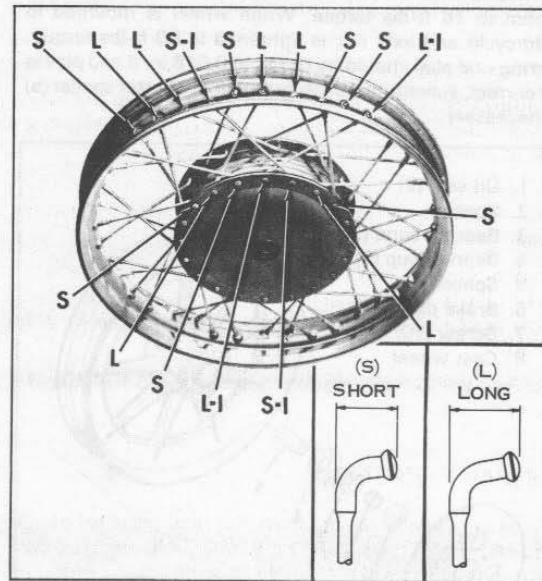

Figure 2-20. Front Wheel Lacing
Note that there are two types of spokes, long and short with bent end as shown in the figure. One long and one short spoke are used in each pair. The long spoke (L) of each pair on rim crosses over to opposite side of hub while the short spoke (S) of each pair on rim connects to same side of hub. Spoke arrangement is shown in Figures 2-20 and 2-21.
ASSEMBLING SPOKES (Figures 2-20 and 2-21)
9. Insert long spokes into right (clockwise hole) of each pair of holes that angles in same direction as spoke on opposite side of rim well. See L-1 in Figures 2-20 and 2-21.
10. Insert short spokes into right (clockwise hole) of each pair on near side of rim well that angles in same direction as spoke. See S-1 in Figures 2-20 and 2-21.